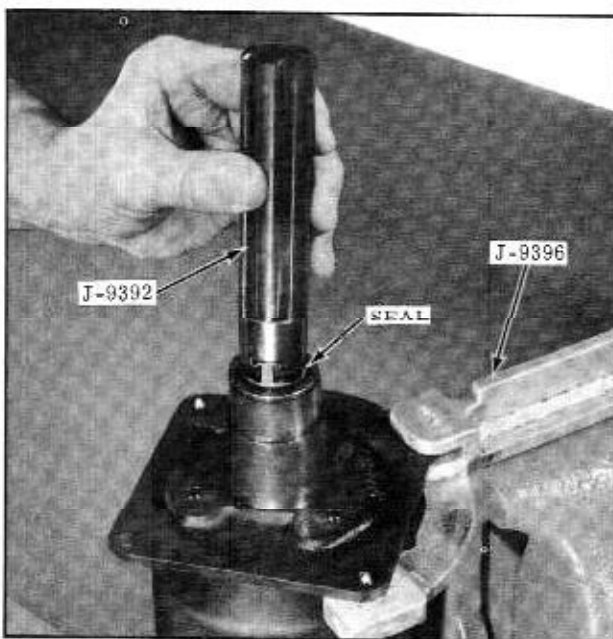

Fig. 14-37 Removing Seal
6. Insert Tool J-9392 on top of seal. Rotate clockwise and force tool downward until tool engages tangs of seal. Remove seal by lifting tool out of housing. (Fig. 14-37)